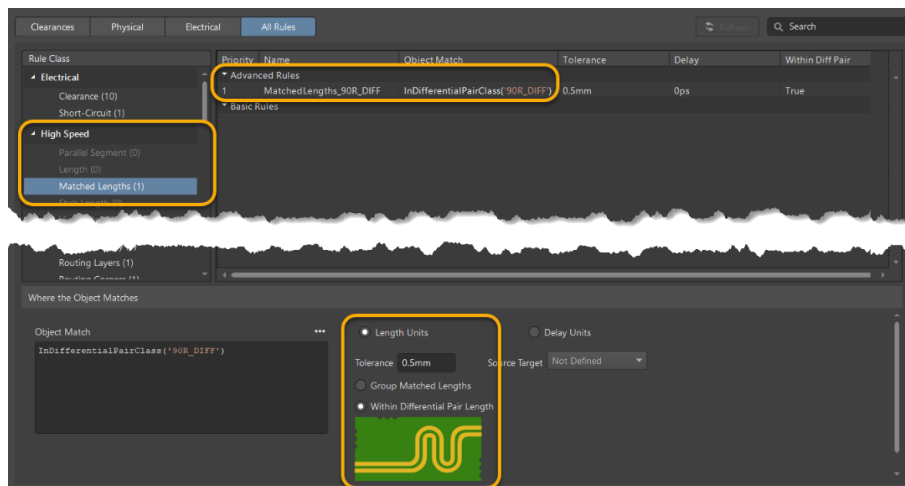

Figure 21. Creating a Matched Length Rule - Option1
- a) Rename the new rule to `MatchedLengths_90R_DIFF`, Figure 21.